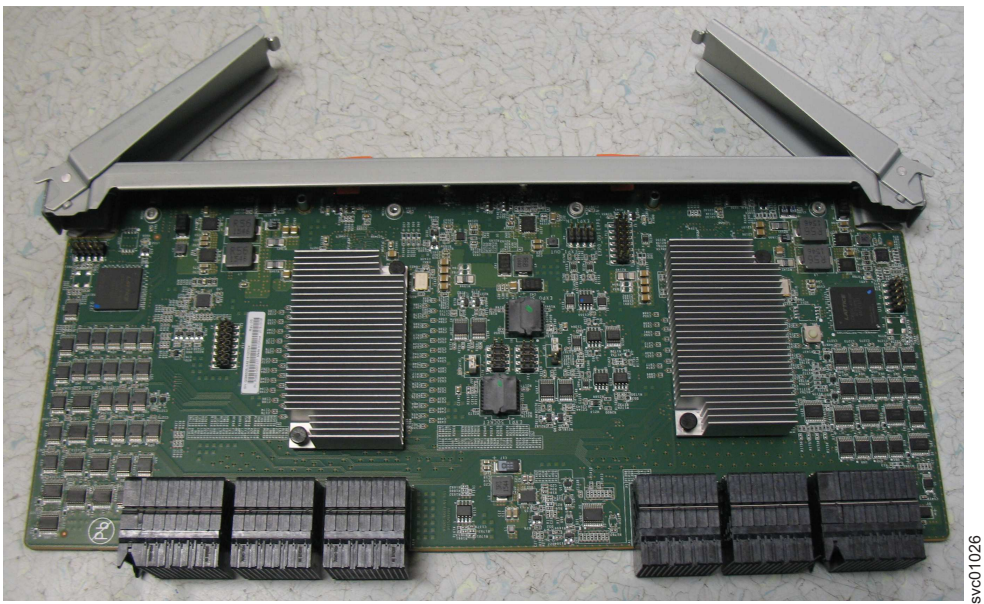

Figure 68. Open the secondary expander module handles
3. Rotate both handles on the new secondary expander module to an open position, as shown in Figure 68.